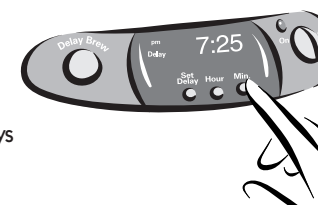

FIGURE B-1
- 2) Press and hold the MIN. button until the clock displays the correct minute. See Figure B-1.